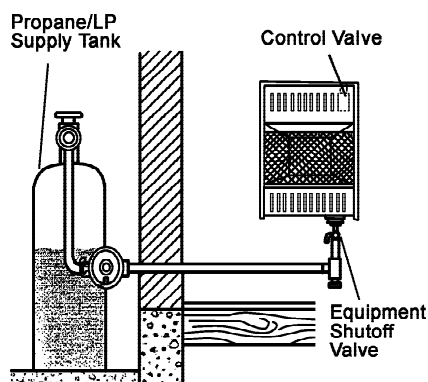

Figure 16 - Checking Gas Joints
3. Check all joints from gas meter to equipment shutoff valve (see Figure 16). Apply mixture of liquid soap and water to gas joints. Bubbles forming show a leak.
4. Check all joints from equipment shutoff valve to control valve (see Figure 16). Apply mixture of liquid soap and water to gas joints. Bubbles forming show a leak.